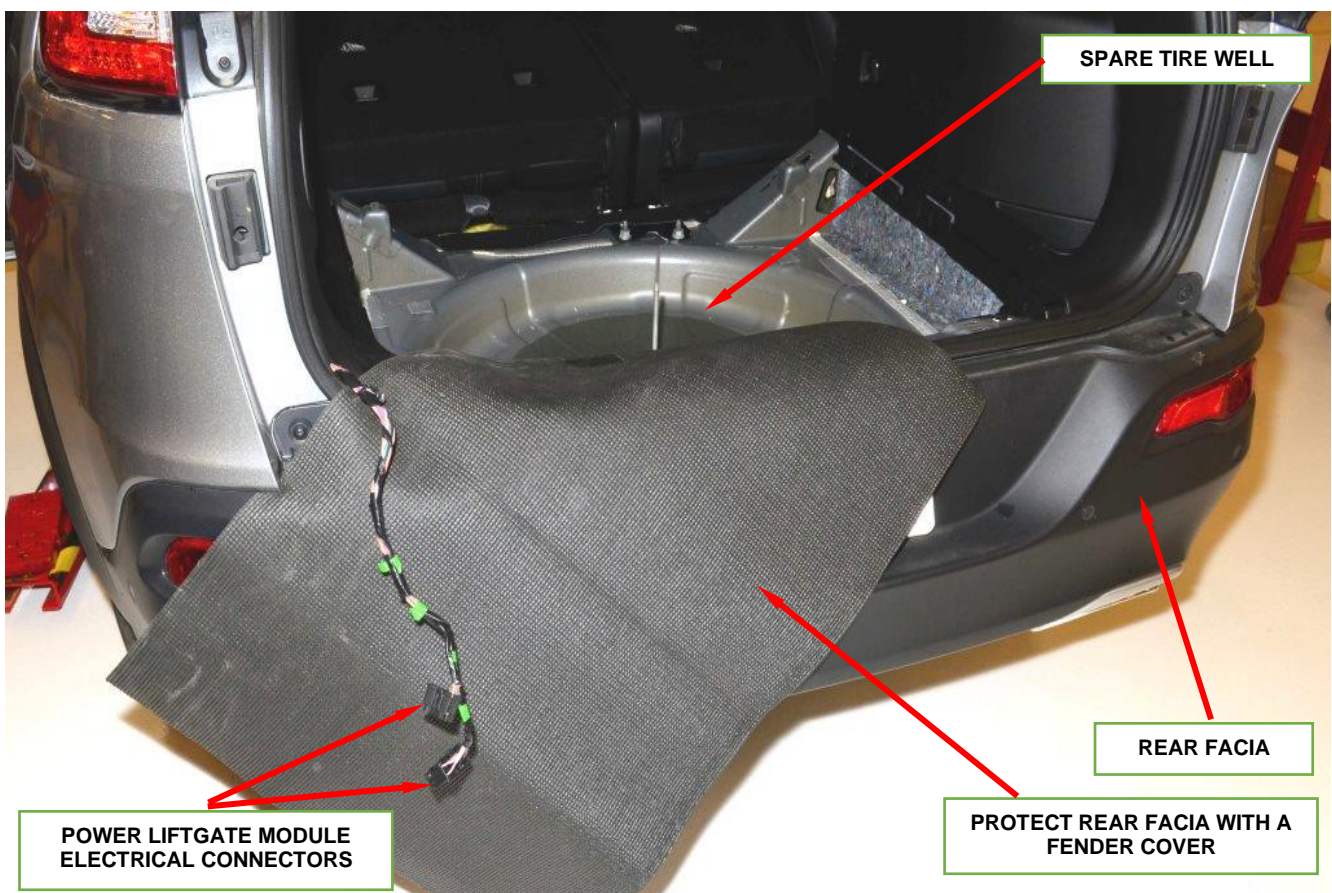

Figure 3 – Wire Harness Access
8. Remove and save two screws, and remove the liftgate opening scuff plate (Figure 3).
9. Remove and save two screws, and remove the tire well plastic trim (Figure 3).
37. Install the tire well plastic trim and securely tighten the two screws (Figure 3).
38. Install the liftgate opening scuff plate and securely tighten the two screws (Figure 3).